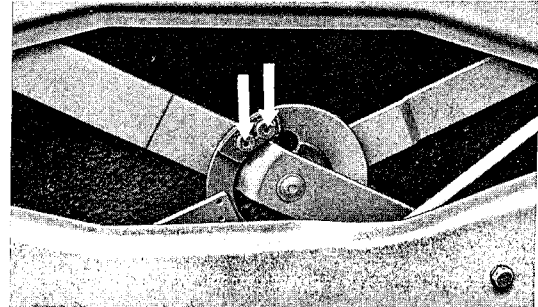
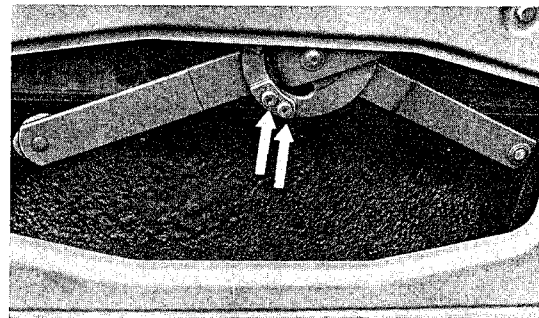

Fig. 43
Fig. 44
8. The end stops for the windshield travel are adjustable for downward and upward travel in Fig. 43 and Fig. 44 respectively.